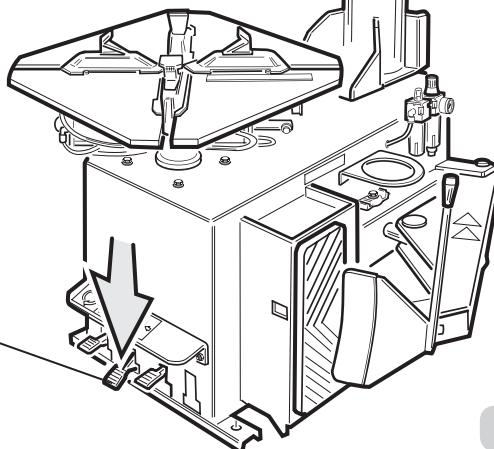

Fig.7
Before making the electrical and pneumatic hook-ups check to make sure that the machine configuration is as illustrated in Figure 7, with pedal (10) in the "fully depressed" position.